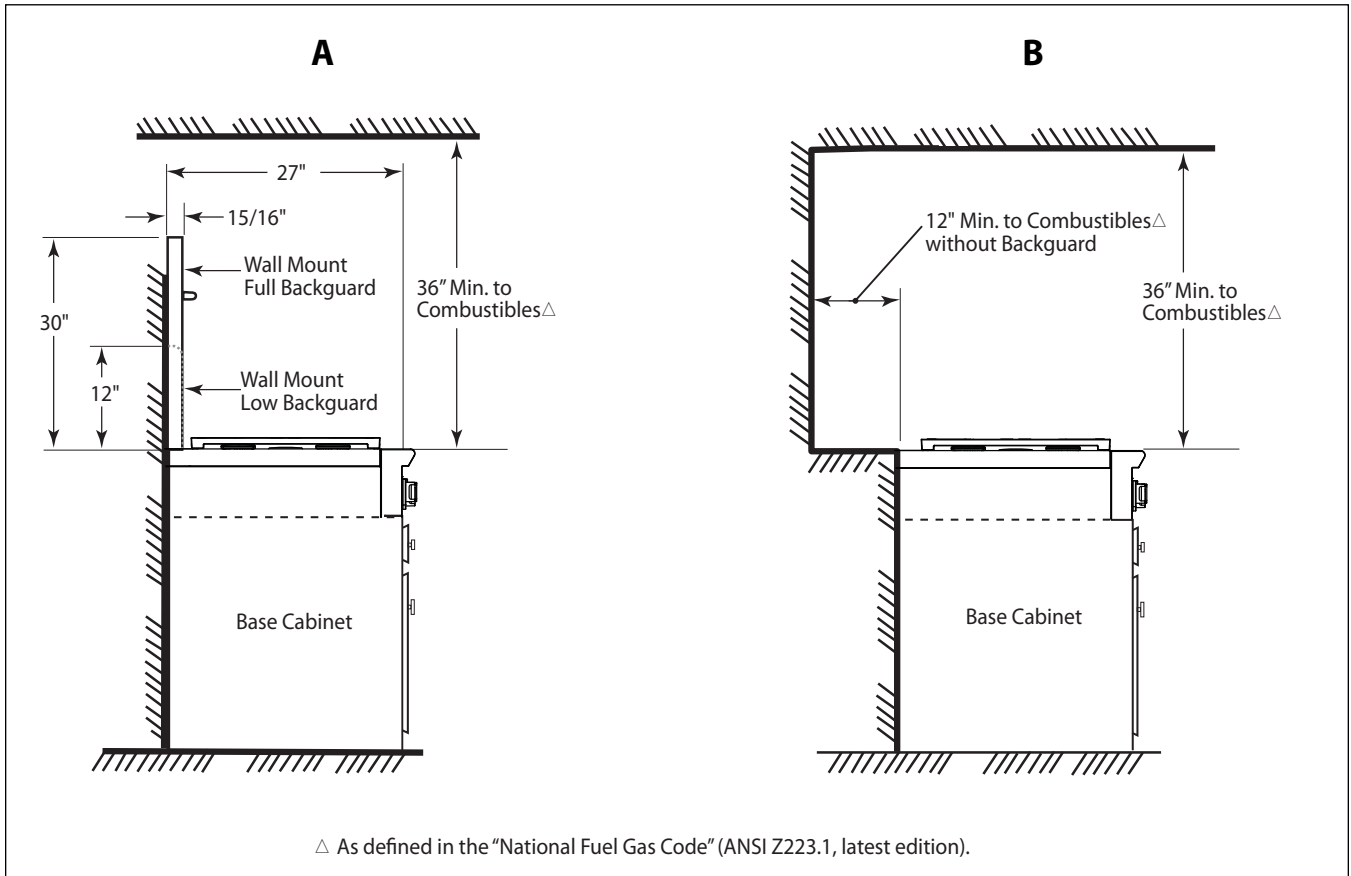

Fig. 6
2. The clearances shown in Fig. 6 are required for all types of backguard installations.
The backguard is located as shown in Fig. 7. Secure the backguard to the wall behind the cooktop. Specific instructions for installation of the full backguard or low backguard can be found packaged with the backguard. See also, "Planning The Installation" section. A backguard must be installed when there is less than a 12" clearance between combustibles and the back of the cooktop (above the cooking surface). See fig. 6.